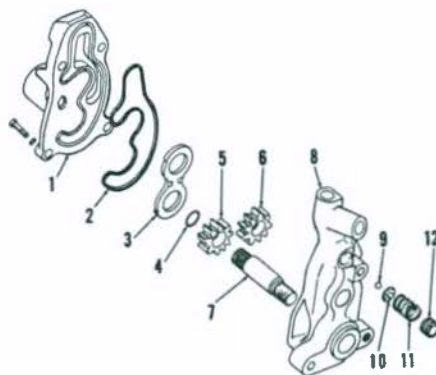
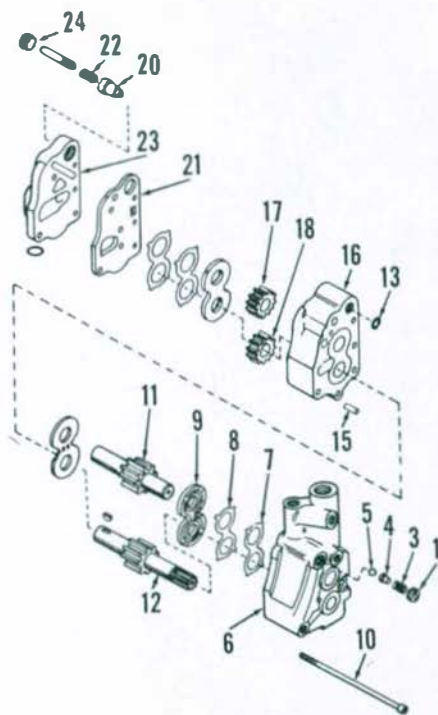

Fig. 243—Exploded view of single section auxiliary pump used on some models.
Fig. 244—Exploded view of dual section auxiliary pump showing component parts.
232. Two different auxiliary pumps have been used. Pump shown in Fig. 243 is used on tractors equipped only with Multi-Power transmission and/or independent pto. Dual section pump shown in Fig. 244 is used for auxiliary hydraulic applications as well as for Multi-Power or independent pto pressure.
233. SINGLE PUMP. To disassemble the removed pump, first remove snap ring retaining drive gear to pump shaft. Remove cap screws securing pump to gear train mounting plate, then remove pump. Remove cap screws attaching end cover (1—Fig. 243) to body (8) and separate pump components.
234. DUAL PUMP. It is recommended that auxiliary hydraulic system pressure be checked prior to servicing the hydraulic pump. The pressure can be checked at an auxiliary valve outlet using suitable pressure gage and fittings. System pressure should be between 15860-17925 kPa (2300-2600 psi). Hydraulic lift cover must be removed for access to the adjustable high pressure relief valve which is located in pump rear cover plate (23—Fig. 244).
separate pump components as shown in Fig. 244. Use care to avoid damaging machined mating surfaces and gear pockets of pump bodies. Do not remove high pressure adjusting screw (24); screw is staked in place and setting should not be changed.